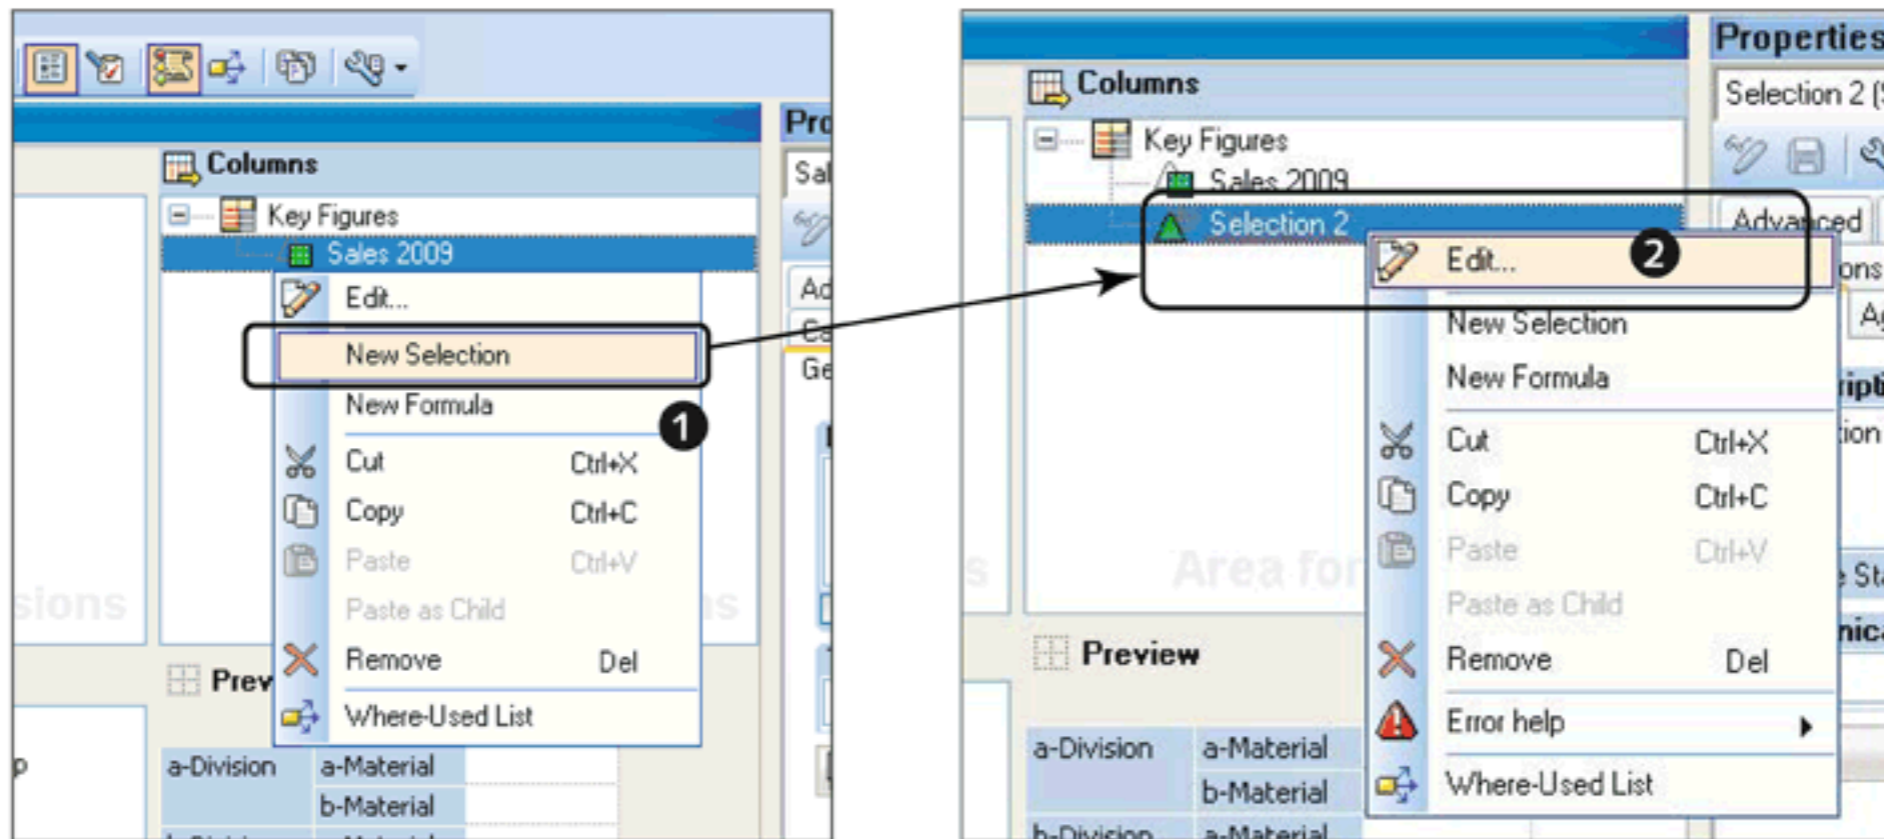

Figure 9.55 Create New Selection
To create a new selection, use the NEW SELECTION option from the context menu (❶ of Figure 9.55). This will create a new selection component in the key figures structure (❷). Double-click or select EDIT from the context menu to define this selection.